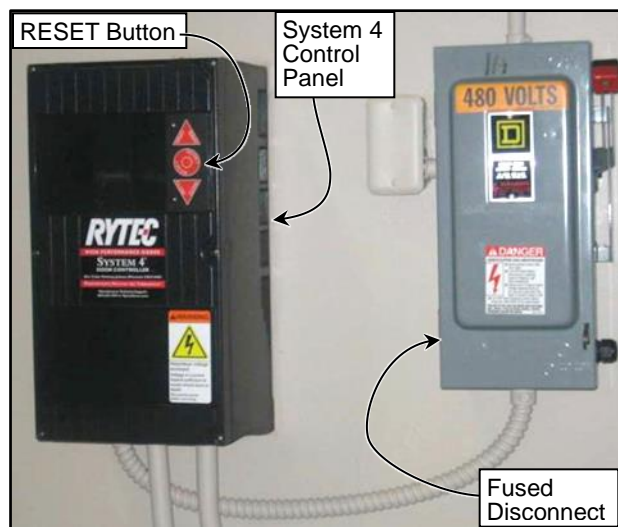

Figure 3
The Spiral LH Door offers high-speed operation with the advantage of providing a secure barrier. All operator inputs and control functions are carried out by the "System 4" drive and control system. (See Figure 3)
2. Then press and hold the RESET (●) button on the control panel to reset the control system. (See Figure 3)